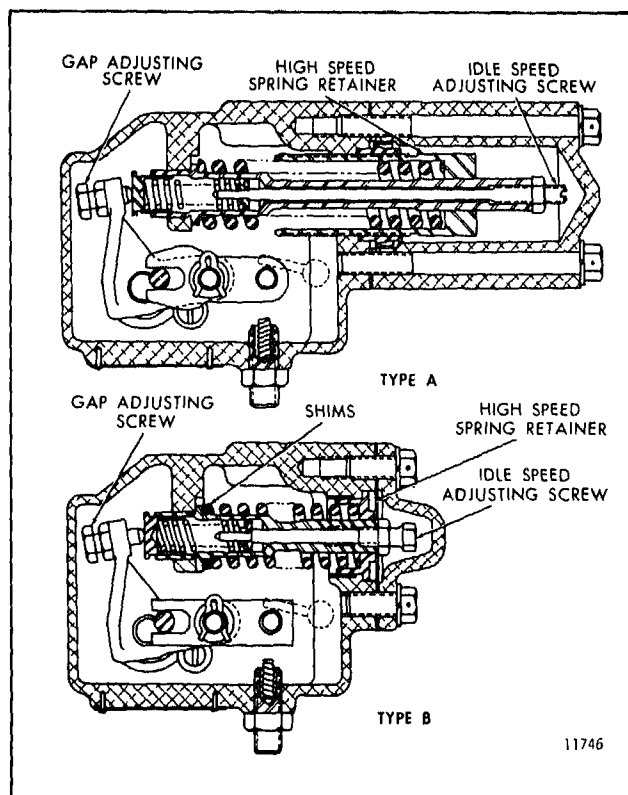

Fig. 6 - Governor Spring Assemblies
TYPE A GOVERNOR SPRINGS (Fig. 6):
TYPE B GOVERNOR SPRINGS (Fig. 6):
b. Remove the high-speed spring from the high-speed spring plunger and add or remove shims (Fig. 6) as required to establish the desired engine no-load speed.